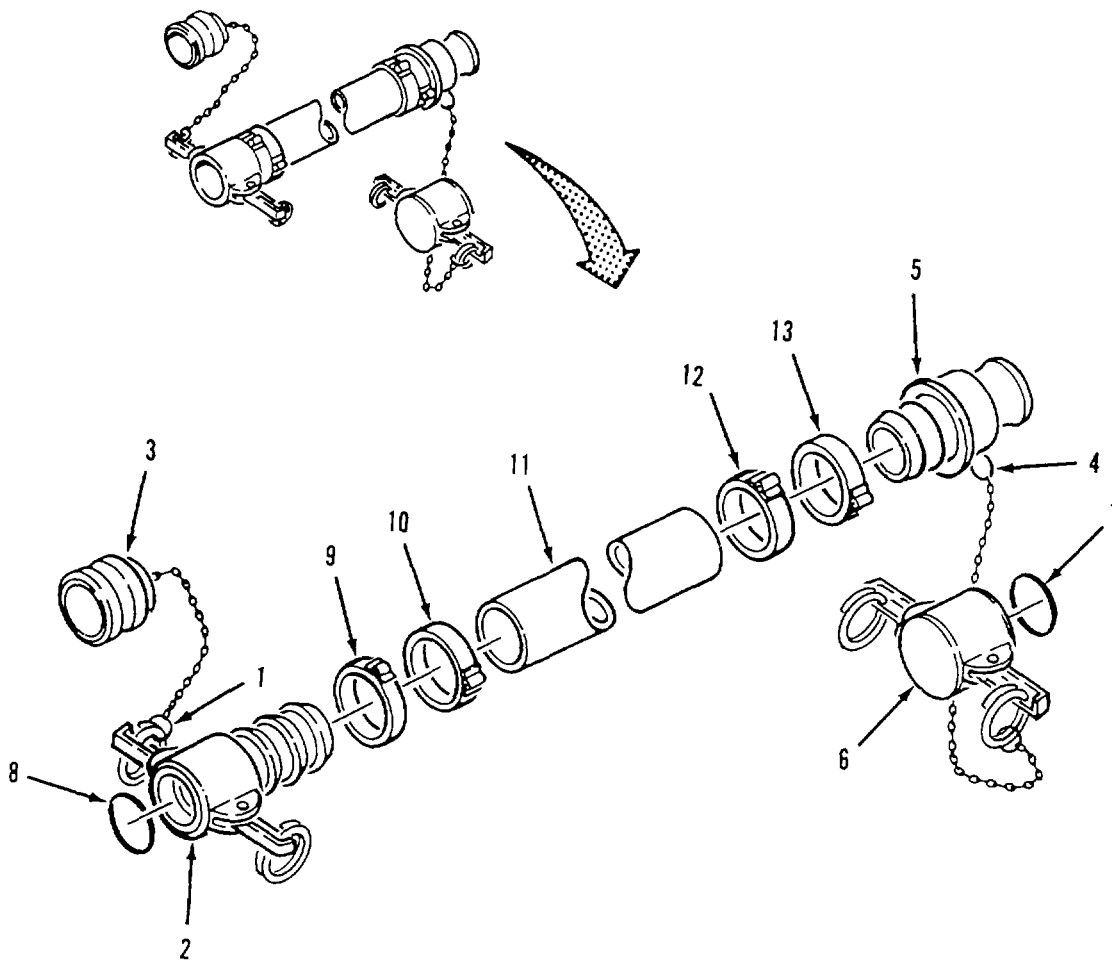

Figure 4-4. Discharge and Suction I-lose Assembly
- (14) Install gasket (8, figure 4-4) in female coupling (2).
- (15) Install gasket (7) in dust cap (6).
- (16) Connect split ring (4) to male coupling (5). Install dust cap (6) on coupling.
- (17) Connect split ring (1) to female coupling (2). Install dust plug (3) on coupling
- (18) Install hose in water system (para 3-4b).
- (19) Startup water system (para 2-12c) and test repaired hose for leaks.